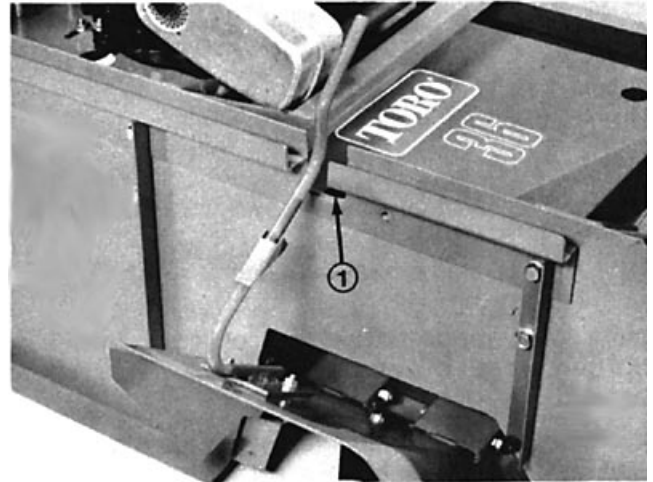

Figure 5
3. Hold the lockup rod base on the deflector, raise the deflector and lockup rod and move the lockup rod forward or backward so the lockup rod is centered in the back panel slot (Fig. 5).